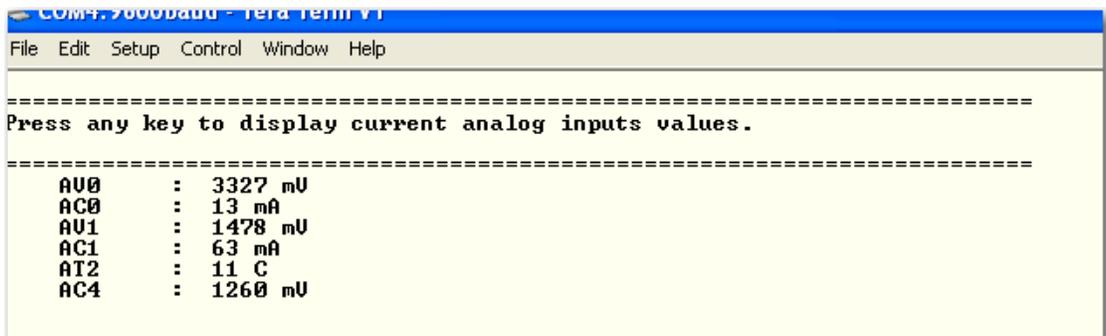

Figure 2-10 · Application Output
8. Press the reset push-button on your target board. The terminal program should show a sign-on message. Click any key on your keyboard to send a character to the board. The board should respond by printing a message similar to that shown in Figure 2-10.